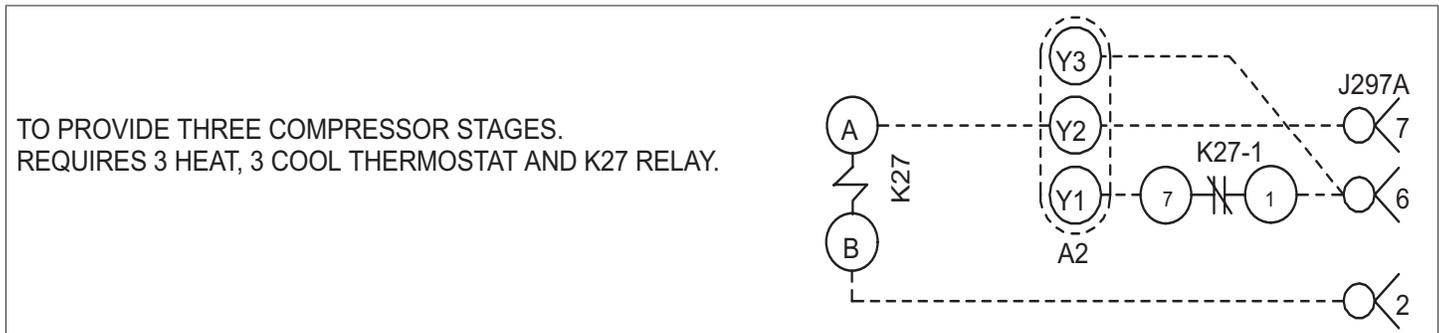

Figure 30. Third-Stage Cool (Parameter 111) Wiring
- **Option 3. Three Cooling Stages:** Cooling operation is shown in “Table 8. Thermostat Mode Operation (Three Cooling Stages Parameter 111)” on page 31; this option requires the use of a three-stage cool thermostat and a K27 relay. See wiring pictorial in “Figure 30. Third-Stage Cool (Parameter 111) Wiring” on page 30 and C section control wiring diagram.